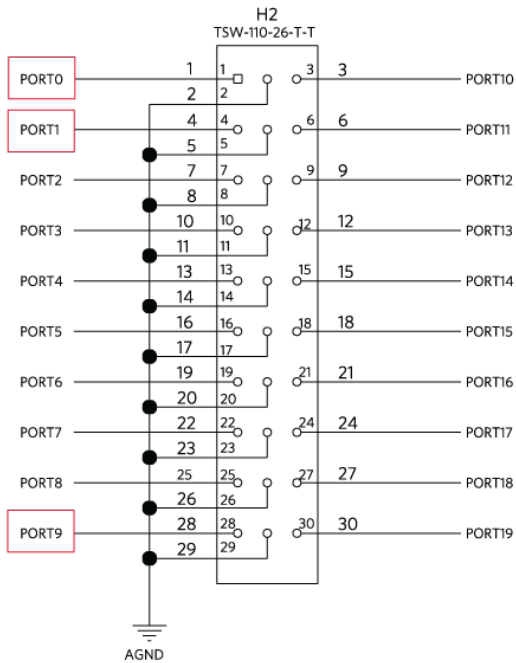

Figure 3. Header H2 pinout with the desired ports highlights with red boxes.
4. Connect the potentiometer between PORT0 and PORT1 of the MAX11301WING, located on header H2, pins 1 and 4. **Figure 3** displays the H2 header pinout and highlights the desired ports with a red box.
5. Connect the potentiometer wiper to PORT9 of the MAX11301WING, located on header H2, pin 28. Reference Figure 3 for a pinout of the H2 header with PORT9 highlighted with a red box.